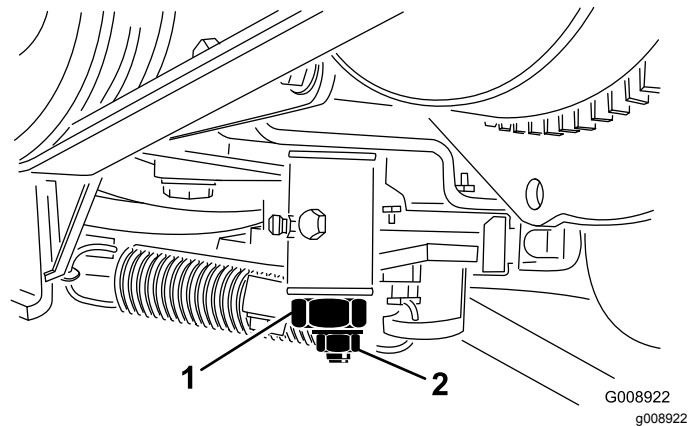

Figure 50
3. Loosen the locknut on the traction adjustment cam (Figure 50).